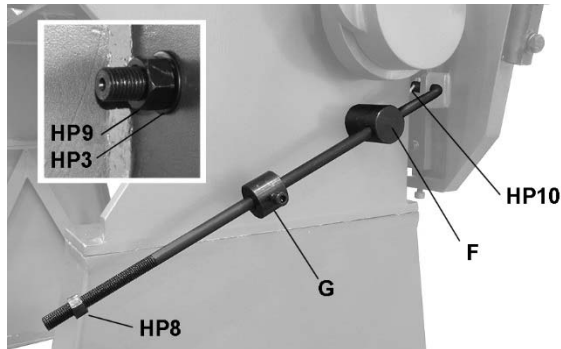

Figure 5
7. Install stop rod assembly on left side of brake, through weldment on apron, as shown in Figure 5. Secure stop rod pin (F) with flat washer and hex nut (HP3,HP9). Install cotter pin (HP10) at end of stop rod, and bend with pliers to secure.
Adjust stop collar on stop rod (Figure 5) to limit apron swing.